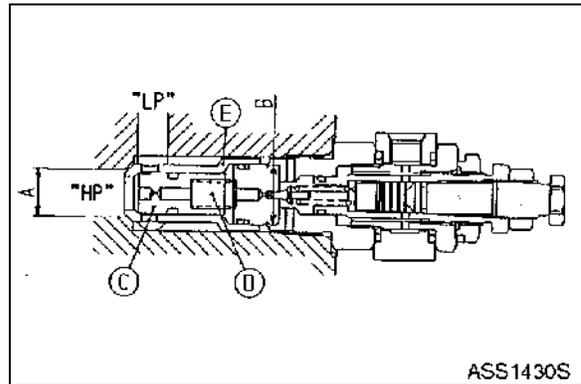

Figure 18
1. The main relief valve is located between neutral oil passage (HP, Figure 18) and low pressure oil passage (LP). Pressurized oil flows into neutral oil passage (HP) through orifice in the main poppet (C) to fill internal cavity (D). Due to the difference in areas between (A) and (B), on which hydraulic pressure acts, main poppet (C) seats on sleeve (E).